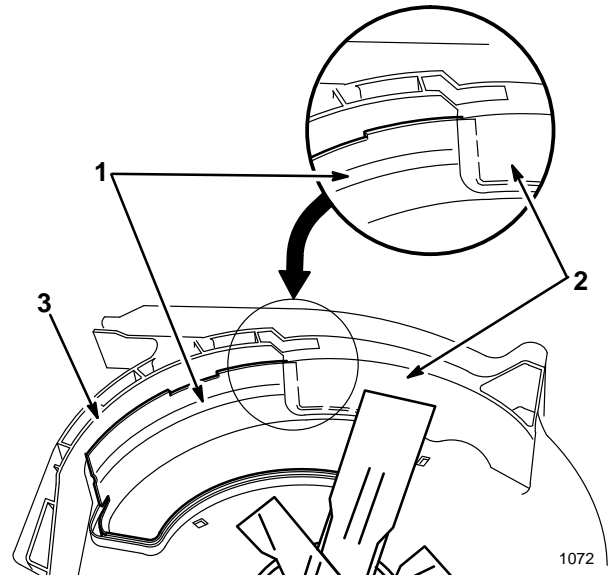

Figure 36
8. Check the clearance between blade tips and the baffle, ensuring that there is no contact (Fig. 36).
Note: The baffle must go behind the front deck baffle and between the blade and toe guard to prevent contact with the blade (Fig. 36).
9. Check the clearance between the blade tips and the mulch plate baffle, ensuring that there is no contact (Fig. 36).